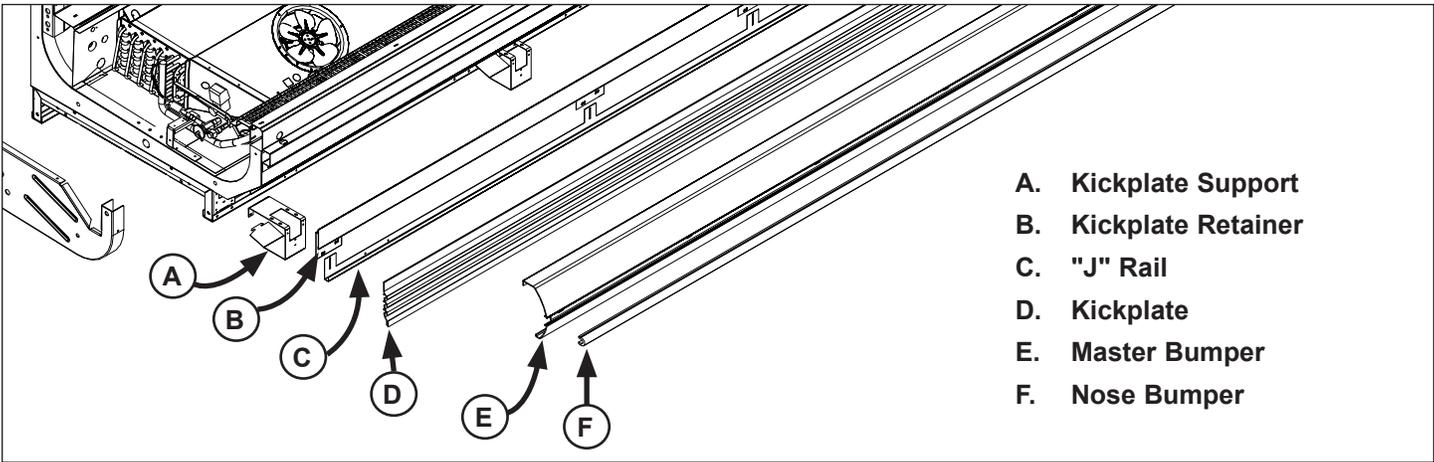

Fig. 8 Front assembly
- 13. Insert nose bumper into master bumper channel (Fig. 8). Roll nose bumper into channel along entire lineup, up to 96'. We recommend leaving an additional 6" of nose bumper at the ends to allow for shrinkage during the first 24-48 hours following case start-up.